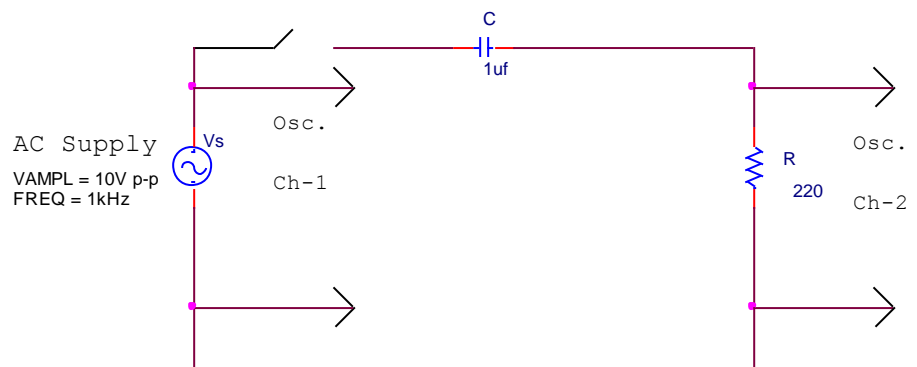

Figure 3
5. Construct the circuit as shown in figure 3. Measure the input voltage with multimeter with ac voltage mode and the input current, with an ac ammeter. The ratio between the voltage to the current gives the magnitude of the impedance Z .